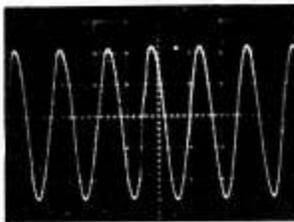

Fig. 3.
- Fig 3. TID. -20dB on full power. No significant disturbance.